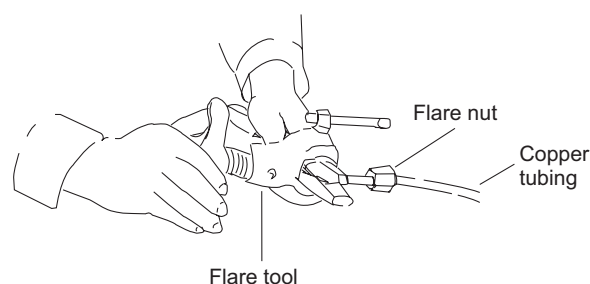

Fig. 1-112
- (3) Remove the flare nut from the unit and be sure to mount it on the copper tube.
- (4) Make a flare at the end of the copper tube with a flare tool. (Fig. 1-112)